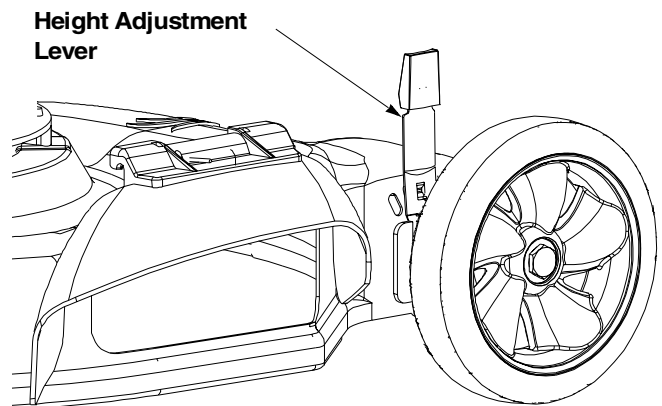

Figure 9
- Simply depress the lever towards the wheel and slide the lever assembly to desired position for a change in cutting height. See Figure 9.